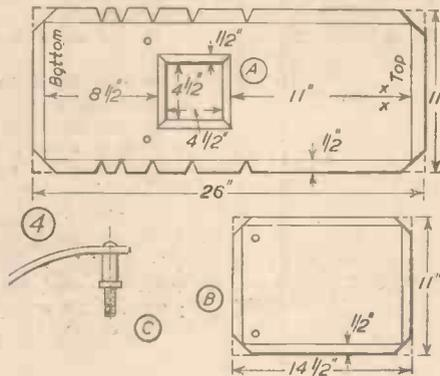
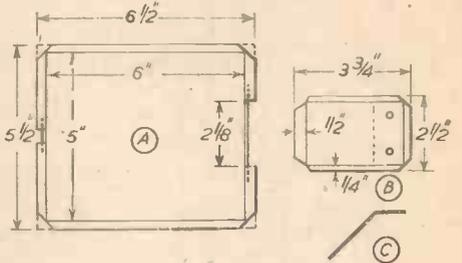

Fig. 5.—The top.
Fig. 6.—The mirror.
For this the size of the metal is 25 in. \times 10 in., allowing for the $\frac{1}{2}$ in. edges to be bent over at right angles. Snip out the V-shaped pieces from the edges, so that the metal can easily be curved. Remove the square "A," bend all the edges $\frac{1}{2}$ in. and flatten them underneath, leaving another opening for ventilation purposes, $5\frac{1}{2}$ in. \times $5\frac{1}{2}$ in. Then bolt this top section to the two sides and front. Over the opening place a covering, $1\frac{3}{4}$ in. \times 10 in. The $\frac{1}{2}$ in. edges are flattened underneath as shown at "B," Fig. 5. This lid is fixed to the top section with two 2 in. bolts and nuts.
A mirror is needed to reflect pictures when the instrument is in use as an episcopo. This is held in a frame cut from tin, $6\frac{1}{2}$ in. \times $5\frac{1}{2}$ in. (See "A," Fig. 6.) Allow $\frac{1}{4}$ in. each side to be turned over on to the mirror. Insert a piece of thick wire, length 3 in., around which the hinge "B" is attached. Cut this hinge from metal, $3\frac{3}{4}$ in. \times $2\frac{1}{2}$ in. Turn over three of the sides $\frac{1}{2}$ in. and flatten. On the fourth side (see "B"), turn the $\frac{1}{2}$ in. around the wire to form the hinge. Then bend as indicated in "C" (viz.: 45 deg.). At the opposite side of the mirror-frame insert another piece of wire, 1 in. long. Attach to this 8 in. of very thin wire.
Now put the mirror in position inside the lamphouse, as shown in Fig. 7. To do this make two small holes in the top section, $\frac{3}{8}$ in. from the front, in the places indicated by "x" in drawing (4) Fig. 5. The mirror has to face the lens. Two holes have also to be made in the hinge attached to the mirror (see "B" Fig. 6). By means of two small bolts and nuts, inserted through these holes, the hinge is fixed to the top section, and consequently the mirror can easily be removed for cleaning.
Fig. 6 shows the final turning and truing operation. Between the lathe centres turn a piece of hardwood, tapering very slightly towards the tailstock. This will allow the partly turned reel to be pushed along this mandrel until it is tight enough to enable the final turning of the reel to be completed.